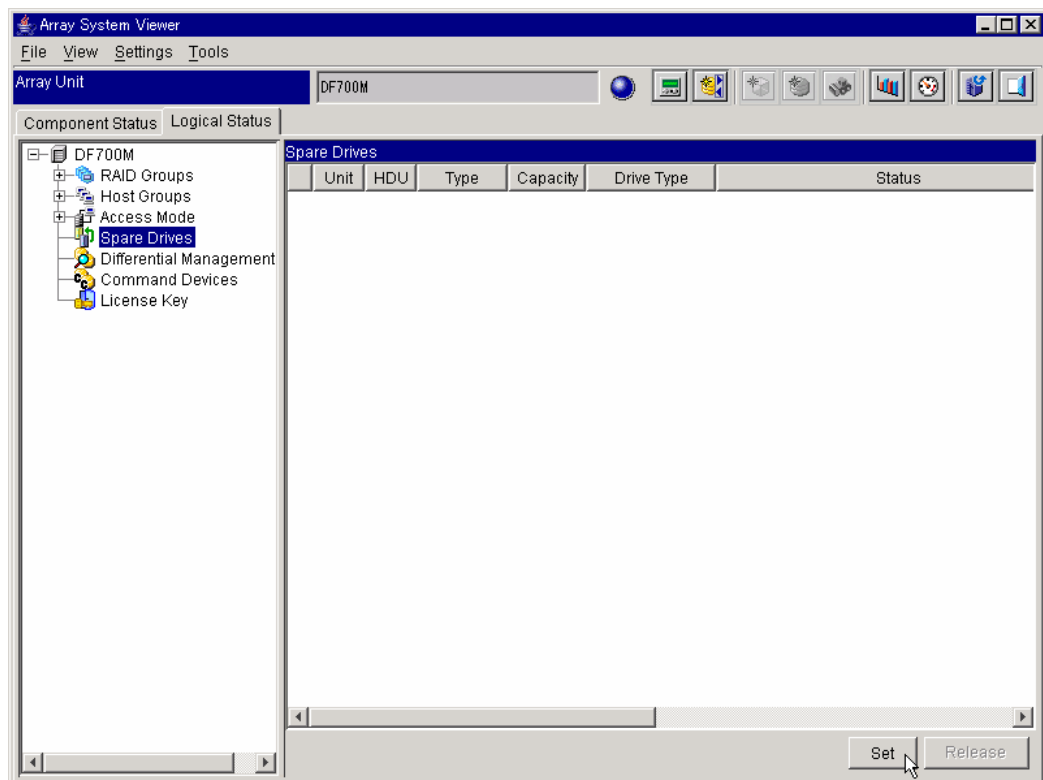

Figure 4.18 Selecting a Spare Drive
1. Click the **Logical Status** tab on the **Array System Viewer** window (see Figure 4.18).
2. From the **Tree View**, click the **Spare Drives** icon (refer to Figure 4.18).